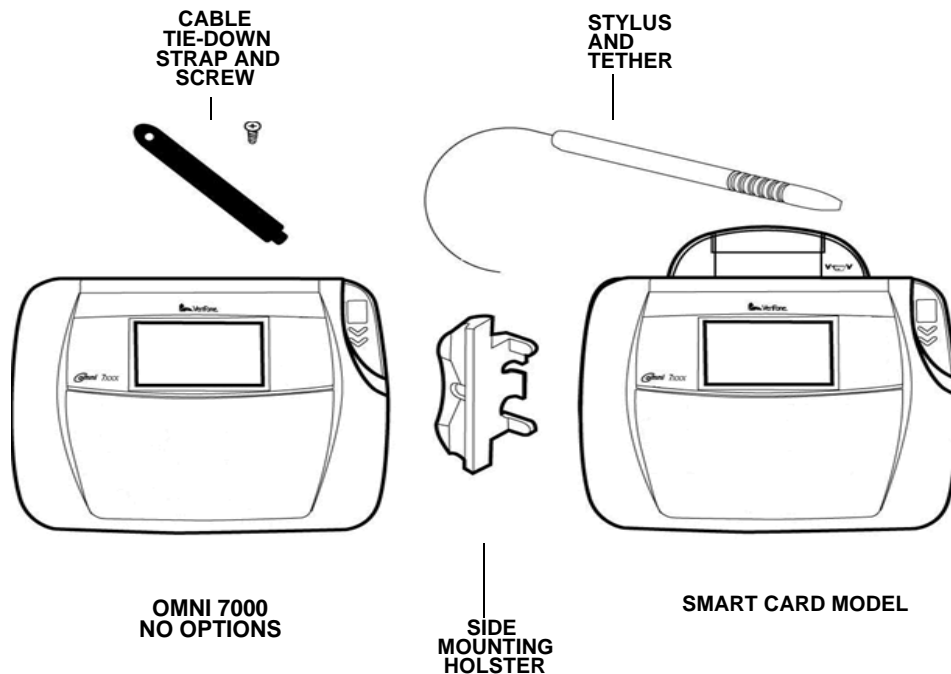

Figure 5 Example of Terminal Product Components
- Inspect the shipping carton and contents for shipping damage (Figure 5). If the Omni 7xxxMPD series terminal or any other component appears damaged, immediately file a claim with the shipping company and notify your terminal provider.